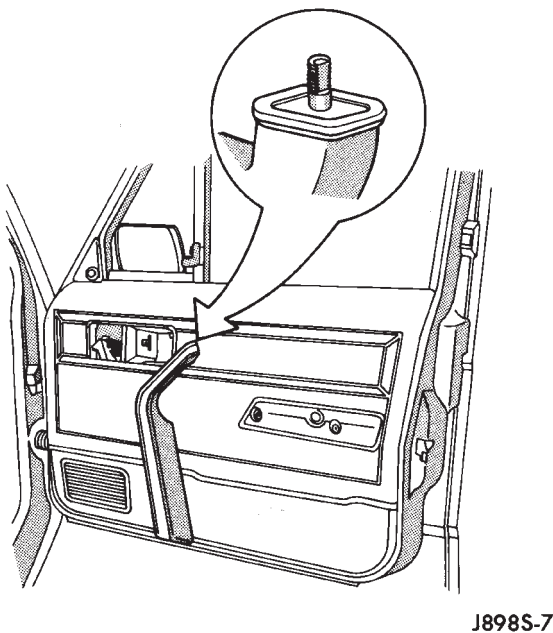

Fig. 5 Armrest Retainer Clip
(2) Disconnect the control linkage and the wire harness connector.
(3) Remove the latch release and control panel assembly.
(4) Remove the armrest lower retaining screws.
(5) Swing the armrest downward to a vertical position. This is necessary to disconnect the armrest from the upper retainer clip (Fig. 5).